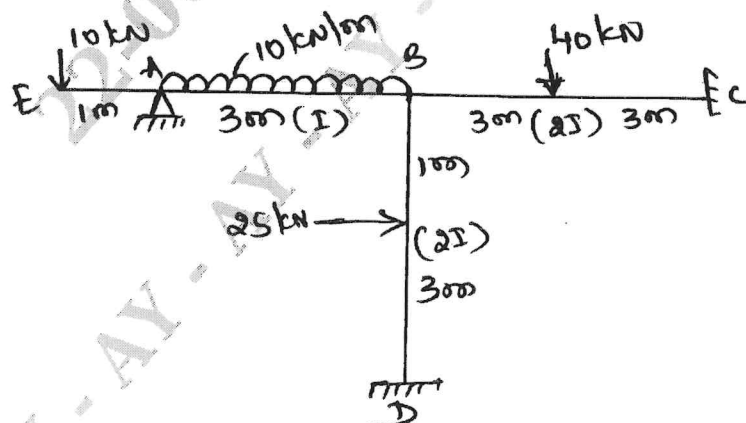

Fig.Q10
- Q.10 Analyze the frame shown in Fig.Q10 by moment distribution method. Draw BMD. 20 L4 CO5